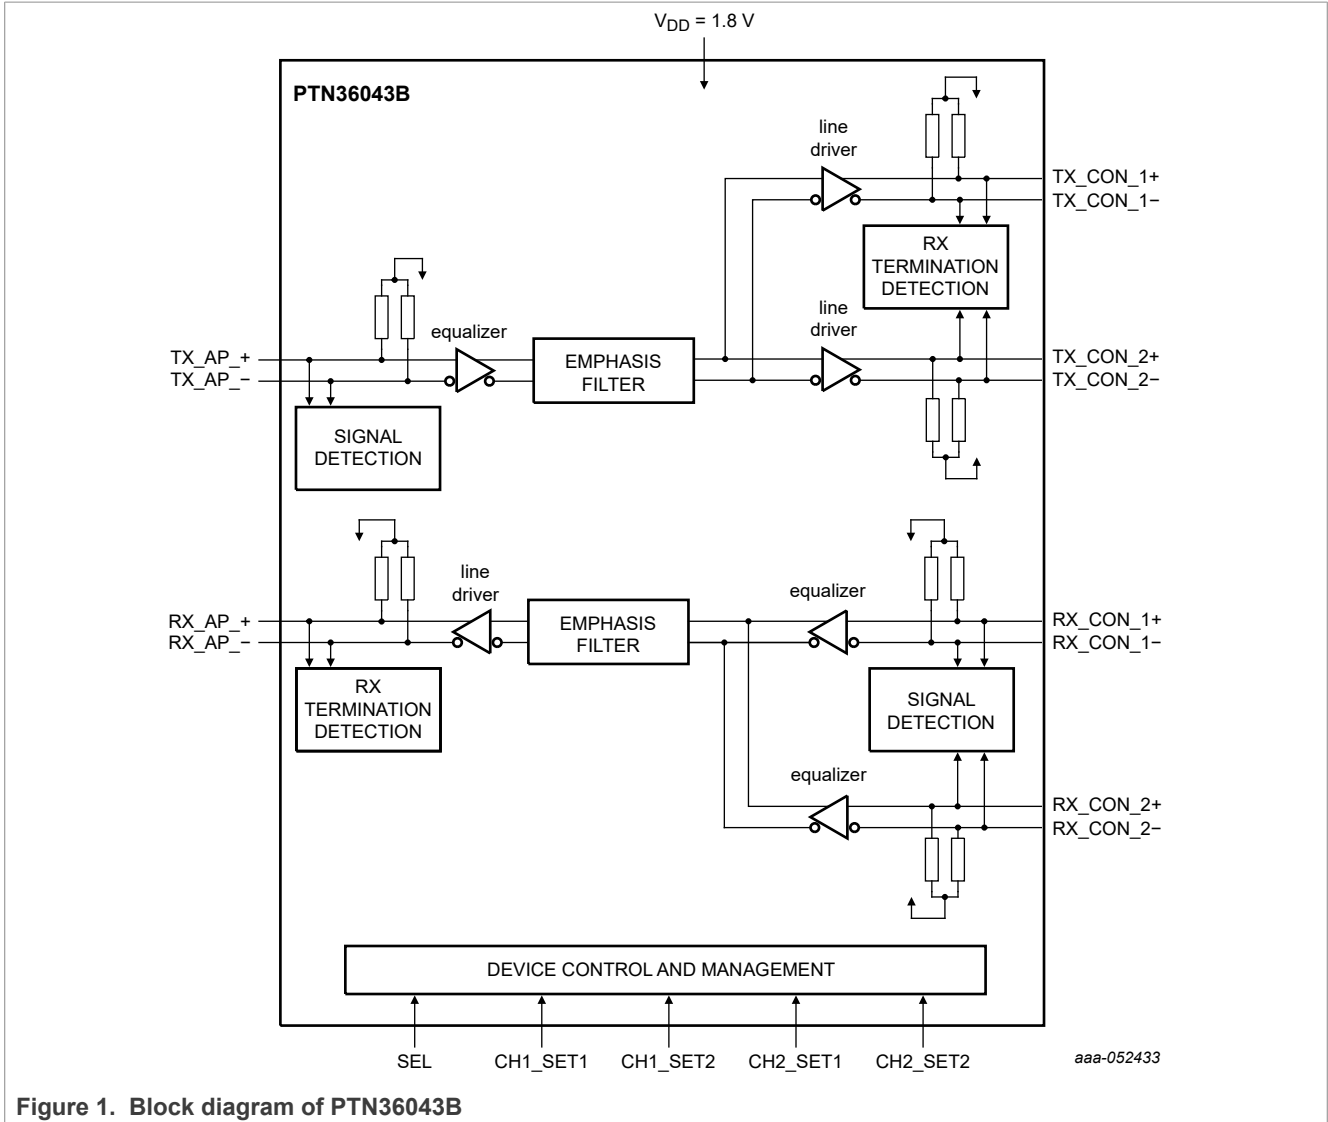

Figure 1. Block diagram of PTN36043B
Refer to Figure 1.
- **Active state** wherein device is fully operational, USB data is transported on either port 1 or port 2 in Figure 1. In this state, USB connection exists and the Receive Termination indication remains active. But there is no need for Receive Termination detection.